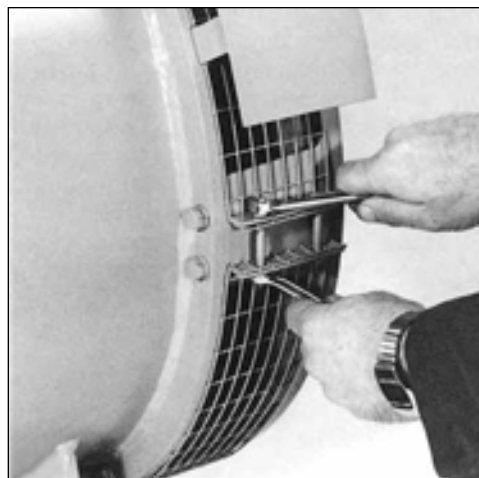

Figure 6-3
- a. For single bearing generators, remove the bolts mounting the screen assembly to the SAE adapter and remove the screen (figure 6-3). (**Note:** Do not remove the dripcover from the screen assembly if so equipped.) Remove the capscrews attaching the drive discs to the flywheel and remove the capscrews attaching the SAE adapter to the flywheel housing.